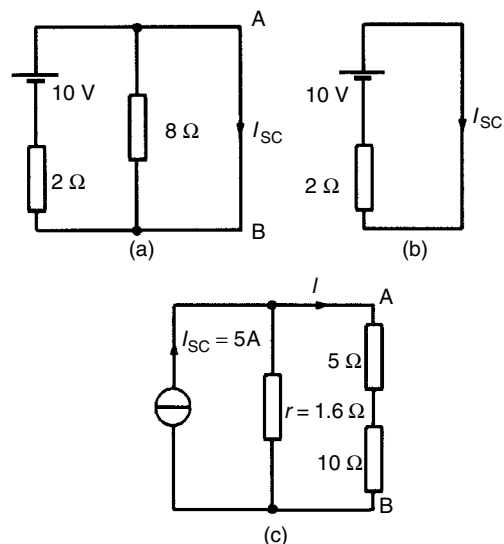

Figure 13.54
- (i) The branch containing the $10\ \Omega$ resistance is short-circuited as shown in Fig. 13.54(a)
- (ii) Fig. 13.54(b) is equivalent to Fig. 13.54(a).
- (iii) If the 10 V source of e.m.f. is removed from Fig. 13.54(a) the resistance 'looking-in' at a break made between A and B is given by:
- (iv) From the Norton equivalent network shown in Fig. 13.54(c) the current in the $10\ \Omega$ resistance, by current division, is given by: